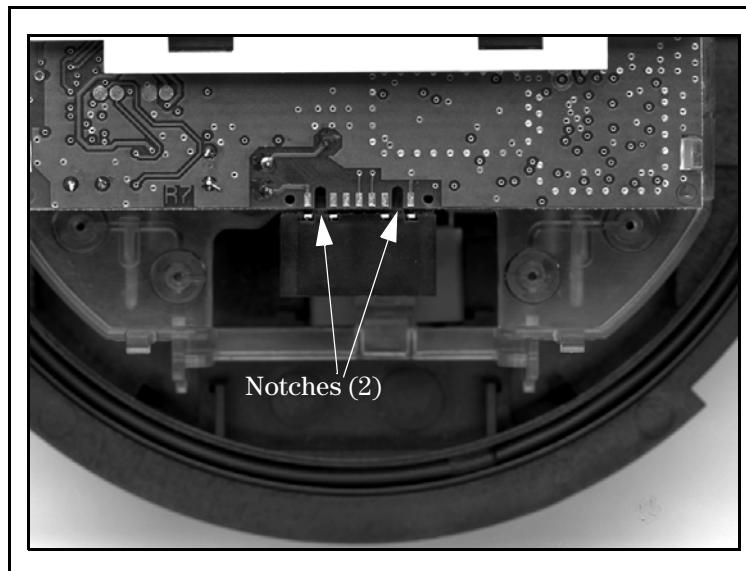
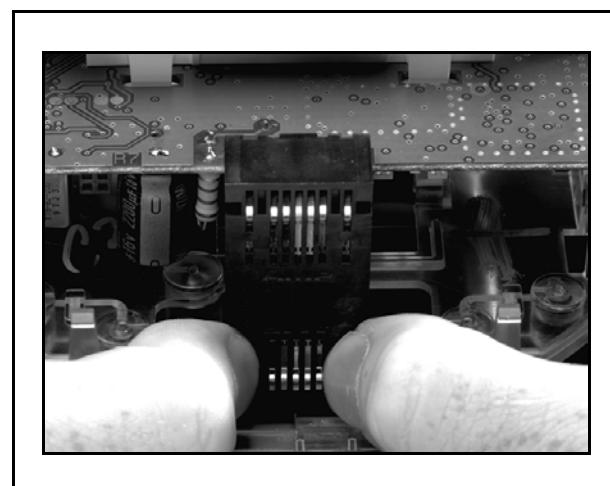
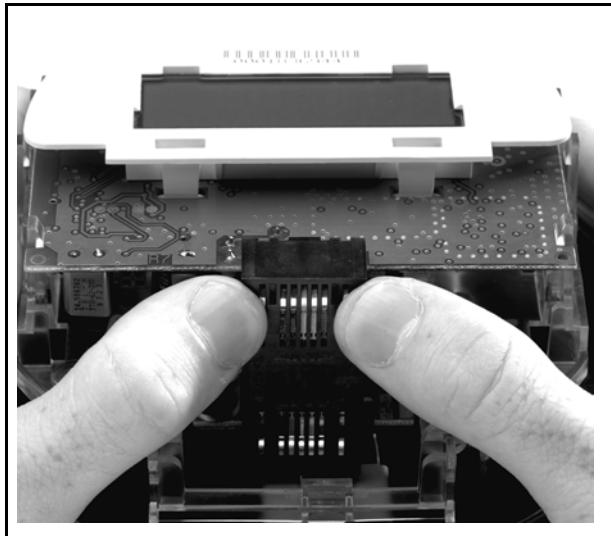

Figure 2.6 Circuit Board Notches
Figure 2.7 Board-to-Board Connector, Bottom
Figure 2.8 Board-to-Board Connector, Top
- 7 Replace the board-to-board connector by aligning the top of the connector with the notches in the circuit board (see Figure 2.6) and pressing gently at the bottom of connector to mate the connector to metrology board (see Figure 2.7). Then, gently press the top of the connector to mate it to the register module (see Figure 2.8). The connector is seated correctly when you hear it snap into place.
Be sure to use the meter base for leverage instead of the LCD holder (see Figure 2.7). Pressure on the LCD holder may damage the personality module.